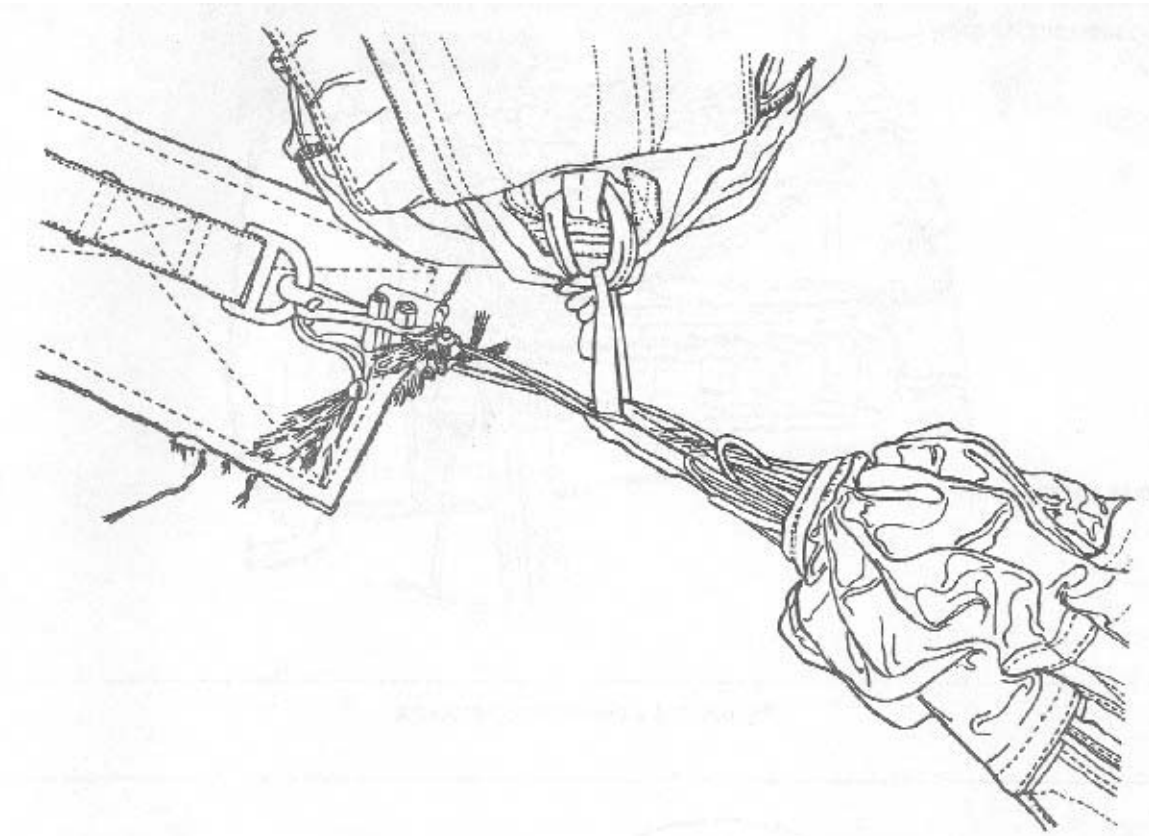

Figure 3-3
- b. Make the break cord tie using a surgeon's knot and a locking knot, forming a 3-inch loop. (See Figure 3-3)